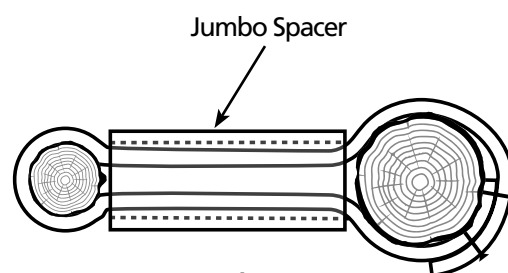

Fig 16
3) We suggest making the top strapping assembly first by using 38 mm (1 3/4 inches) Easy Flex Strapping (fig17) which will allow the top of the tree stem some slight flexibility to allow the tree to develop its own resistance to wind loadings and reduce the risk of wind damage to the stem once the tying system has been removed. This top strapping needs to be positioned about 25 mm (1 inch) below the top of the fixing stakes and we need to form a figure '8' shape (fig16) between each of the two stakes and the tree separately by passing the Easy Flex Strapping around the tree then both ends of the strap through a Jumbo Spacer (fig18) cut to the required length which is the distance between the stake and the tree less 100 mm (4 inches). We then continue with the straps out of the Spacer and then around the outside of the tree stake and fix the strap to the outside of the stake using two flat head galvanised clout or roofing nails making sure they both go through both ends of the strap (fig16) and through one of the pre formed and reinforced nail holes. Repeat this process for the opposite side top strapping position, again using the more flexible Easy Flex Strapping, making sure the tree is held firmly in position by these two straps once the top assembly has been completed. We can now complete the assembly repeating this process for the lower strapping at a height halfway between the top strapping level and ground level but using the 38 mm (1 3/4 inches) Easy Fix Strapping (fig12) product to provide a very stable lower stem to protect the root ball effectively.